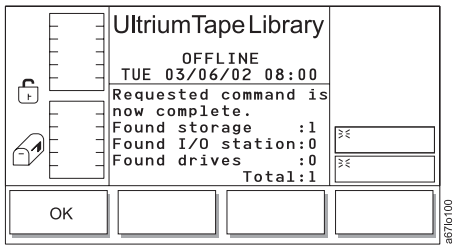

Figure 4-78. Completion Dialog
- If you chose to display the results, the Completion Dialog displays (see Figure 4-78). The screen shows the quantity of cartridges that were found in the storage slots, I/O station, and drives.